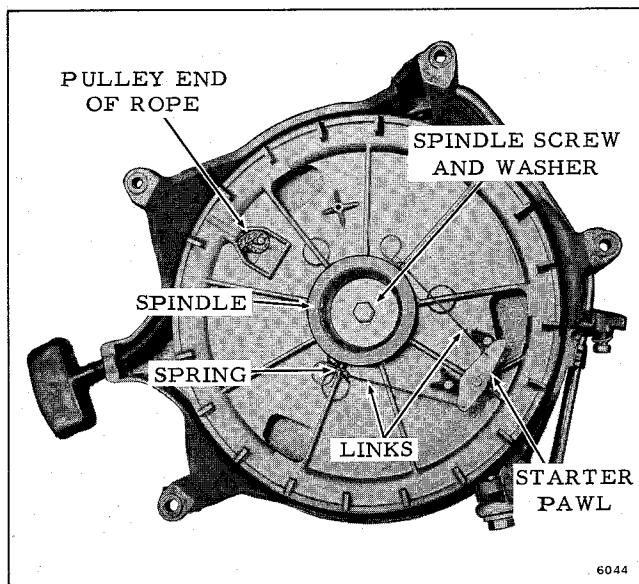

Figure 8-1. Manual Starter
The manual starter engages the power head flywheel ratchet with a spring loaded pawl when the starter rope handle is pulled. A coil spring winds tight as the rope unwinds and recoils as the handle is returned to the housing. See Figures 8-1 and 8-2.
- Remove pawl retaining ring and lift off pawl with links and spring. See Figure 8-1.
- Remove nut, screw, and washer from spindle. Hold starter, bottom side down, over bench and jar housing against bench top to dislodge pulley spindle and spring. See Figure 8-1.